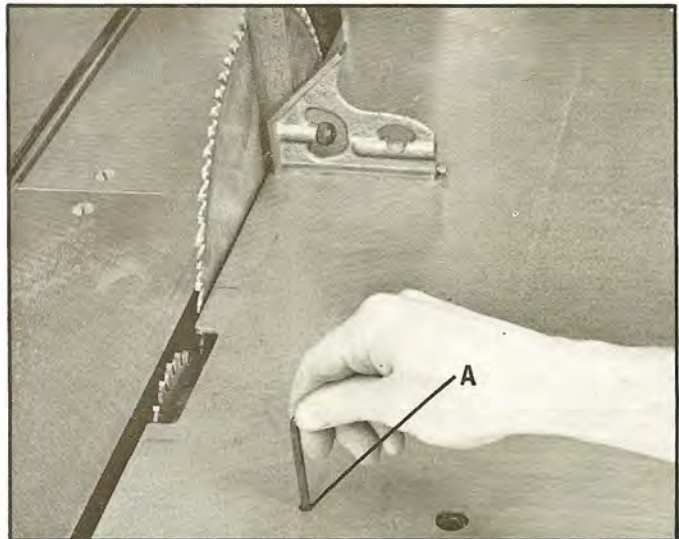

Fig. 37
2. Set the blade at 90 degrees to the table by turning the blade tilting handwheel clockwise as far as it will go. Place a square on the table with one end of the square against the blade, as shown in Fig. 37. Check to see if the blade is at a perfect 90 degree angle to the table.
3. If the blade is not at 90 degrees to the table, back off set screw (A) Fig. 37, and turn blade tilting handwheel until you are certain the blade is at 90 degrees to the table. Then tighten set screw (A) until it bottoms.